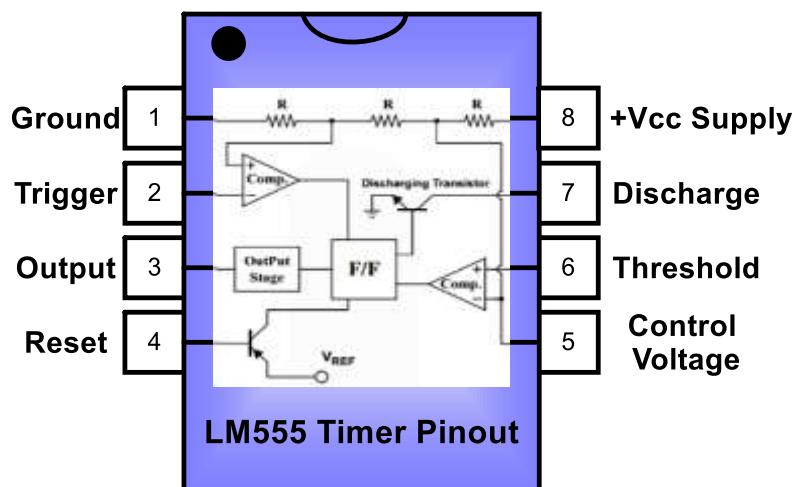
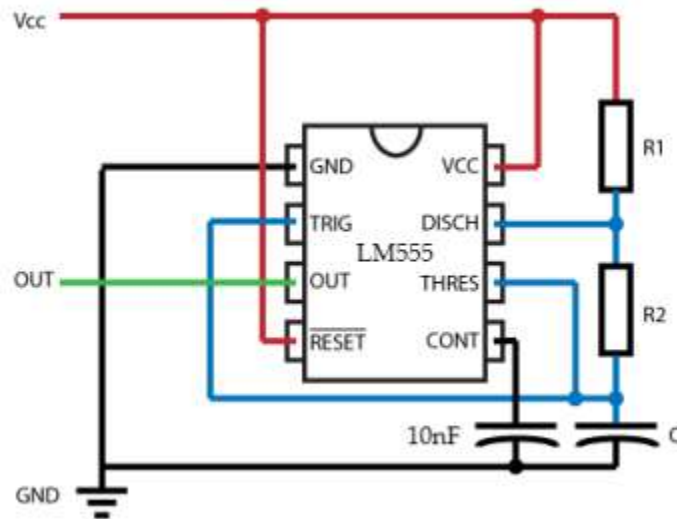

Fig 7: LM555 timer pinout
Fig 8: LM555 in astable mode
LM555 is among the devices for generating clock signal or time delays. The pin layout of this IC can be seen in Fig 7.
This IC operates in three modes: Monostable, Bistable and Astable. The astable mode that we use in this experiment allows the timer to operate as an oscillator that outputs a continuous rectangular pulse of a required frequency. For astable operation, we need two resistors and one capacitor to design a circuit that operates at the frequency required. The timing during which the output is either high or low is determined by these externally connected resistors and capacitor. Note that the durations of the low and high states may be different. Fig. 8 illustrates an LM555 configuration for astable mode operation.
The external capacitor (C) charges through $R_1 + R_2$ and discharges through R_2 . Thus, the duty cycle and frequency may be precisely set by selecting the right combination of resistances and capacitance. According to Fig 7 and Fig 8, the charge time (output high) is given by $T_1 = 0.693 \times (R_1 + R_2) \times C$. The discharge time (output low) by: $T_2 = 0.693 \times R_2 \times C$. Thus, the total time period of square wave is $T = T_1 + T_2 = 0.693 \times (R_1 + 2R_2) \times C$. Consequently, the frequency of oscillation is $= 1/T$. The duty cycle also can be computed by $D = \frac{R_1 + R_2}{R_1 + 2R_2}$.
1. Implement the LM555 in astable mode using the wiring diagram from Fig 8 and observe the output on oscilloscope. Measure the clock frequency and the duty cycle.